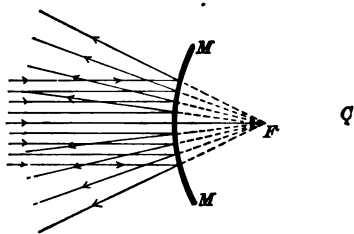

FIG. 395. — Convex mirror and virtual focus.
**424. Convex mirror.** When a beam of light parallel to the principal axis strikes a convex mirror, the rays are reflected as if they came from a point behind the mirror. This is shown in figure 395, where  $C$  is the center of curvature and  $F$  is the point from which the reflected rays diverge.